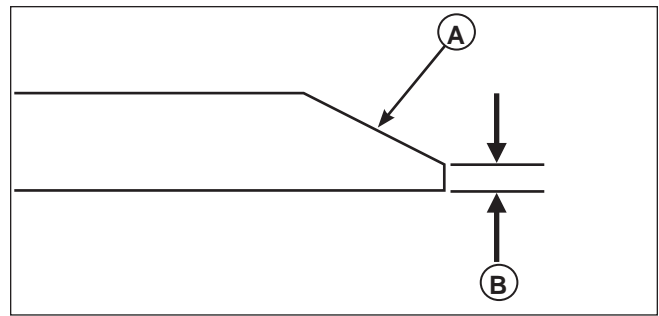

Figure 29. Sharpening the Mower Blade
3. Keep the original bevel (**A, Figure 29**) when grinding. **DO NOT** change the mower blade bevel.